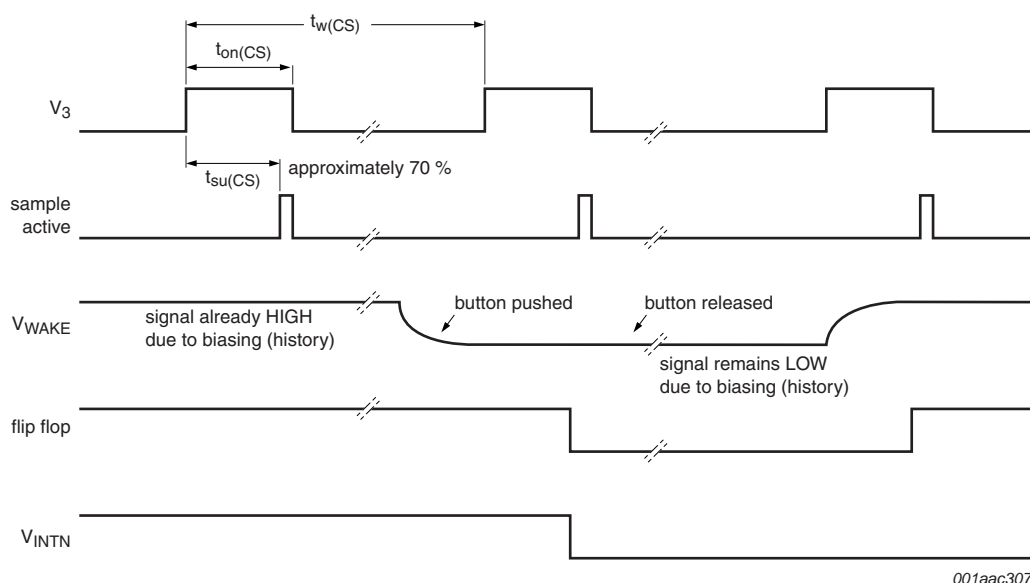

Fig 11. Pin WAKE, cyclic sampling via V3
- Sampling synchronized to the cyclic behavior of V3 if the bit is cleared; see Figure 11. This is to minimize bias current in the external switches during low-power operation. Two repetition times are possible, 16 ms and 32 ms.